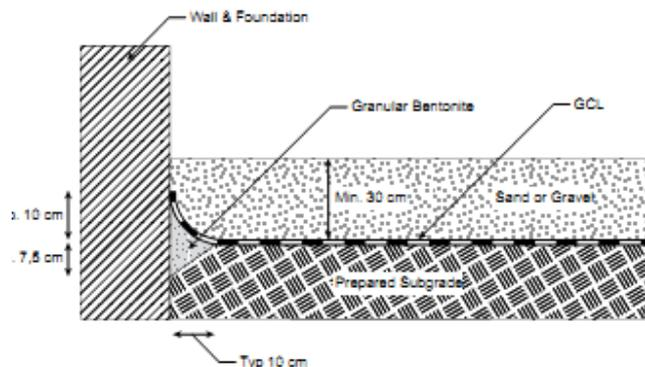

Fig. 16: Cross-section of Claymat GCL seal against an embedded
5. When the **Claymat GCL** is terminated at a structure or wall that is embedded into the subgrade on the floor of the containment area, the subgrade should be notched. The notch is filled with granular bentonite; the **Claymat GCL** should be placed over the notch and up against the structure (**Figure 16**). Connection to the structure can be accomplished by placement of soil or stone backfill in this area. When structures or walls are at the top of a slope, additional detailing may be required. Contact **ABG** for specific guidance.